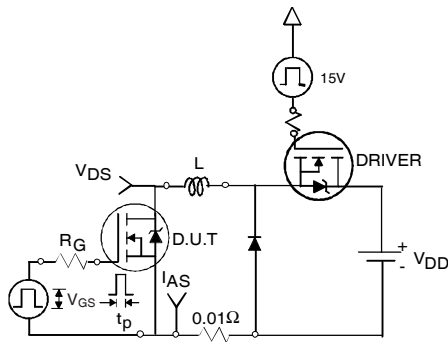

Fig 12a. Unclamped Inductive Test Circuit
- ③ This value determined from sample failure population, starting $T_J = 25^\circ\text{C}$, $L = 0.23\text{mH}$, $R_G = 25\Omega$, $I_{AS} = 75\text{A}$, $V_{GS} = 10\text{V}$.
- ④ Pulse width $\leq 1.0\text{ms}$; duty cycle $\leq 2\%$.
- ⑤ C_{oss} eff. is a fixed capacitance that gives the same charging time as C_{oss} while V_{DS} is rising from 0 to 80% V_{DSS} .
- ⑥ Limited by T_{Jmax} , see Fig.12a, 12b, 15, 16 for typical repetitive avalanche performance.
- ⑦ This is only applied to TO-220AB package.
- ⑧ This is applied to D²Pak, when mounted on 1" square PCB (FR-4 or G-10 Material). For recommended footprint and soldering techniques refer to application note #AN-994.
- ⑨ R_θ is measured at T_J of approximately 90°C .
- ⑩ TO-220 device will have an R_{th} of 0.45°C/W .
3. Equation below based on circuit and waveforms shown in Figures 12a, 12b.